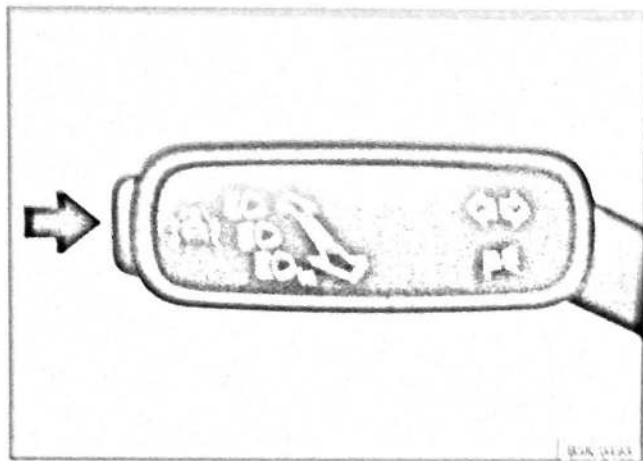

Fig. 18 On the turn signal and main beam lever, button for driver assist systems
- Press the button → Fig. 18 in the direction of the arrow to open the **Assist systems** menu.
- Mark and confirm your selection by pressing the button (A) on the windscreen wiper lever, or by pressing the (A) button on the multifunction steering wheel → page 27.